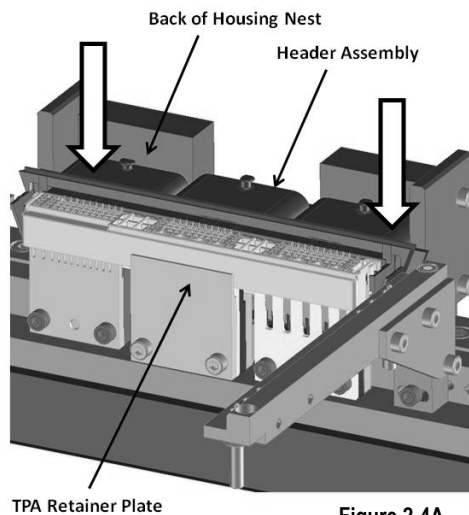

Figure 2-4A
3. Place header assembly bay openings against back stop of housing nest and slide header assembly downward to engage initial row of right angle bend compliant terminals to comb tooling. The housing nest has center area relief for fingers during initial header assembly loading. With two hands apply light pressure to fully seat header assembly into final position. When header assembly reaches final position, comb tooling will support all right angle compliant terminal shoulders and TPA retainer plate will cover header assembly TPA by approximately 5-6mm. This ensures header assembly position front to back. See Figure 2-4A.